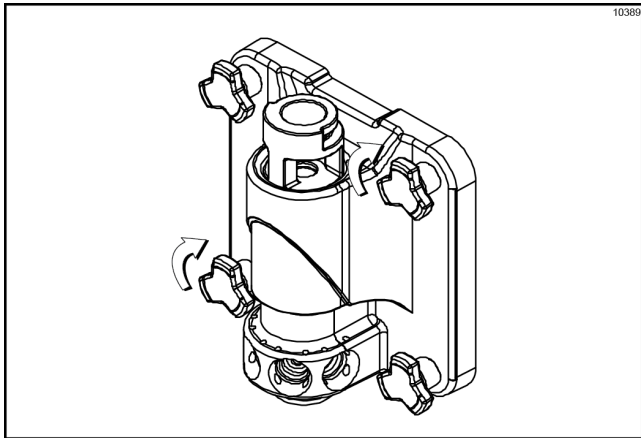

Figure-122
13. Install the shake freezer door. Position the freezer door on the four studs on the front of the freezing cylinder. Align the top of the draw valve with the valve lifter bracket. Install the handscrews (short handscrews at the bottom of the door). Tighten equally in a crisscross pattern to ensure the door is secured. **Do not** overtighten. (See Figure-122.)